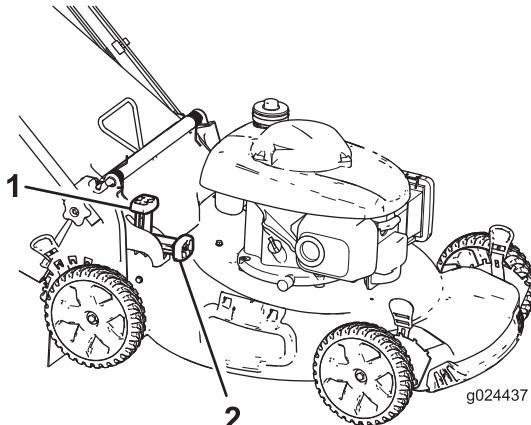

Figure 20
- To bag the grass and leaf clippings, press the button on the bag-on-demand lever and move the lever forward until the button on the lever pops up (Figure 20).